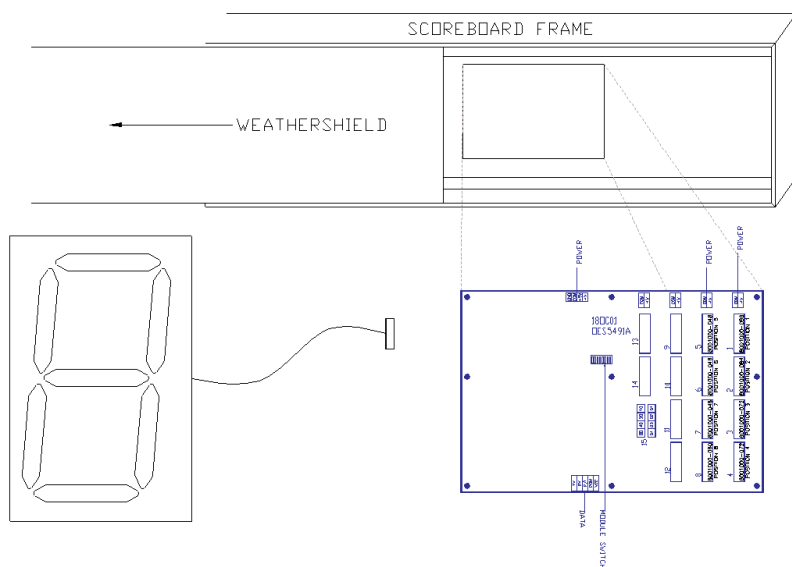

Figure 3-D Scoreboard Control Boards
- 3) The control board, as shown in Figure 3-D, is now visible. Note the location of the module switch. Refer to the chart inside the scoreboard frame module switch settings. Charts for module switch settings for the various revisions of scoreboards are also available on our website, www.coloradotime.com, in the customer service section.